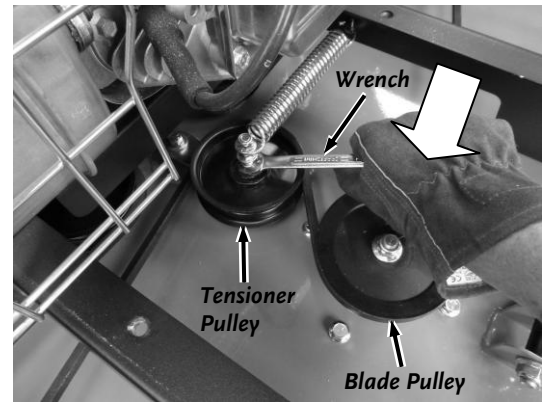

Figure 49
9. **Pro XL60TF model:** Release tension on the Belt by placing a 9/16" Wrench on the nut against the Tensioner Pulley and roll the Belt off the Blade Pulley (**Figure 49**).